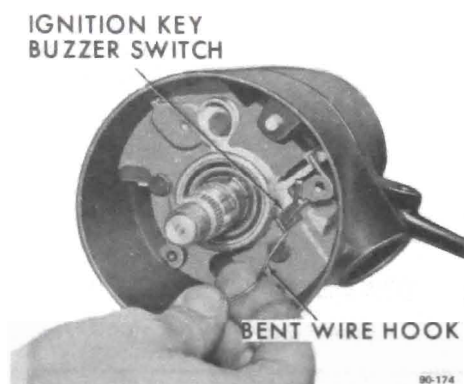

Figure 90-108 Removing Buzzer Switch
12. The buzzer switch can be pulled straight out of the housing. (This may be done without removing the lock cylinder. However, the lock cylinder must be in the "run" position.) See Figure 90-108.